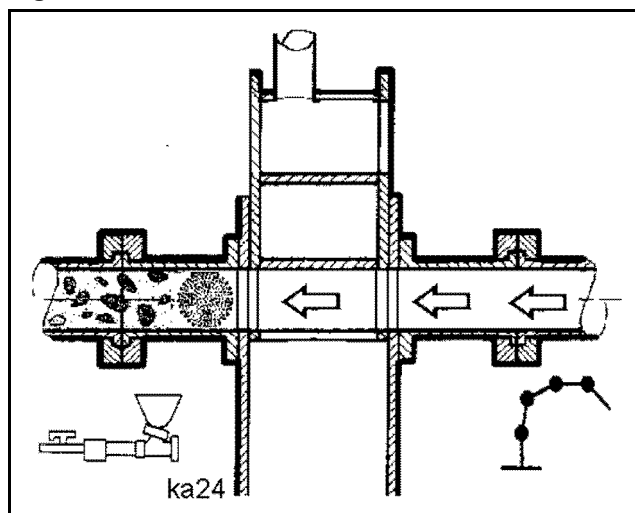

Fig. 468
- Extend the chamber once more (**Fig. 468**).